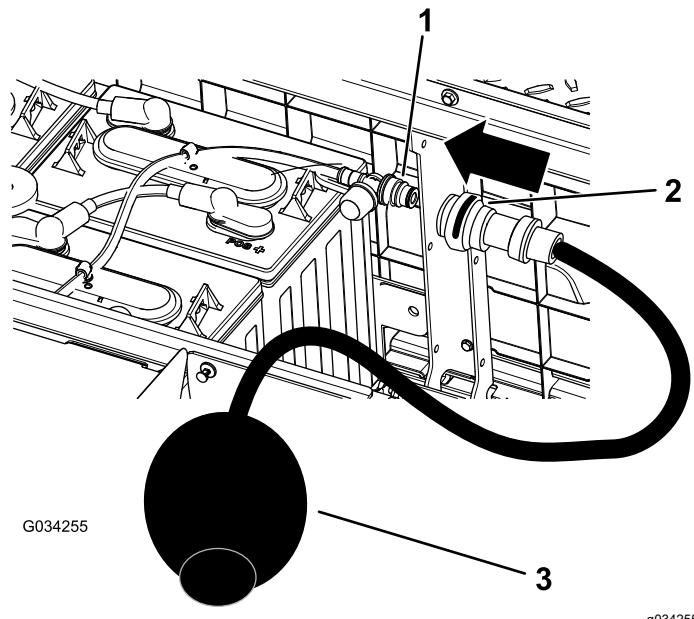

Figure 41
4. Connect your Toro water hand pump to the water-fill port (Figure 41).